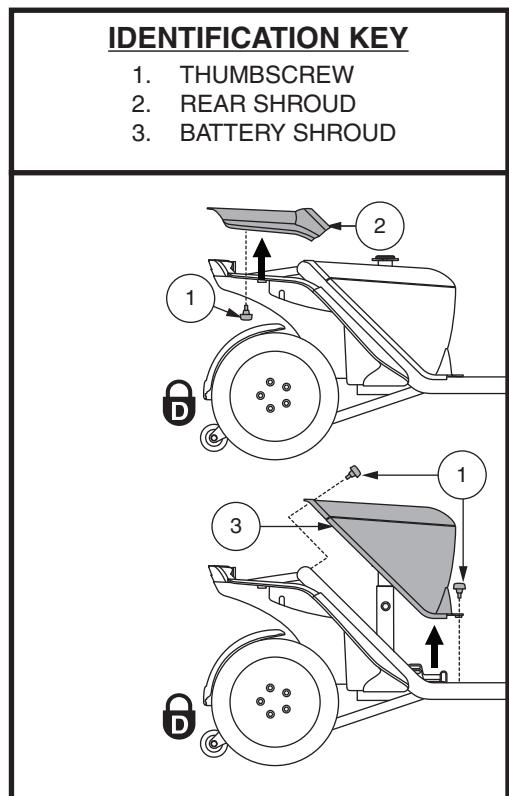

Figure 12. Battery Shroud Removal/Installation
2. Remove the rear shroud by lifting it straight up and off the vehicle. The shroud is secured to the vehicle with reusable fasteners and two (2) thumbscrews. See figure 12.
3. Remove the battery shroud by removing the four (4) thumbscrews that secure it to the vehicle frame, and then lifting the shroud straight up and off of the vehicle. See figure 12.